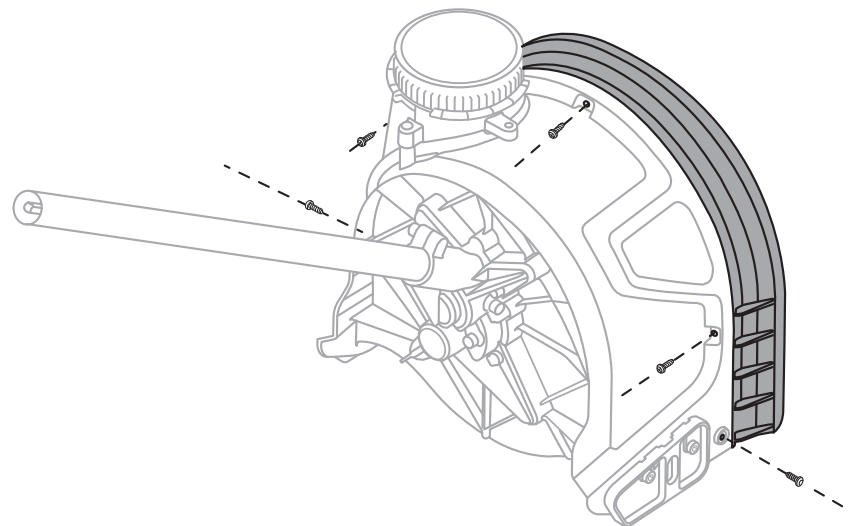

Fig. 1
3. Remove the five screws that are located on the attachment guard. (Fig. 1)